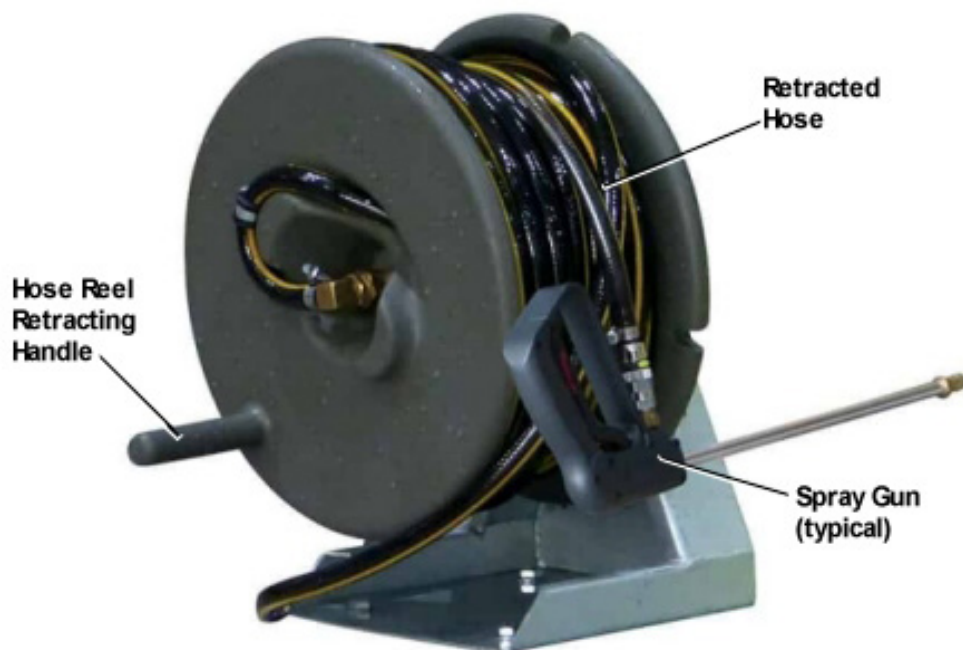

Figure 4 – 30m Manual Hose Reel (typical)
8. To retract the hose, turn the handle at the side of the hose reel (Figure 4) to wind it onto the spool, guiding the hose as necessary to ensure even distribution across the width of the reel. Allow enough slack in the hose to stow the spray gun in its holder beside the reel.